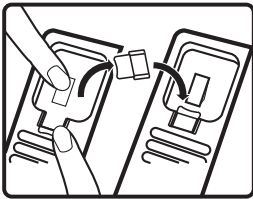

Figure 4
1. Pull the handset hook out of the base and reverse its position so that the hook points up and will hold the handset when you hang up. See Figure 4.